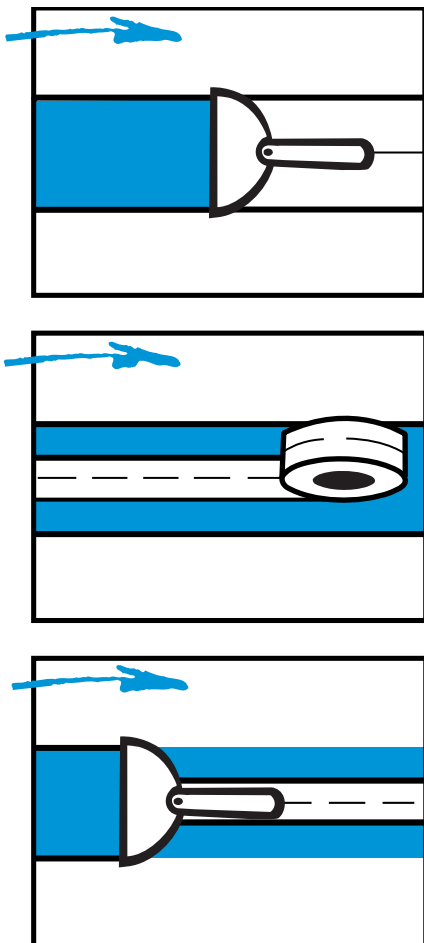

FIGURE 65 Bedding Coat
- > Place paper tape along the joint and bed it into the compound, removing excess compound and any air bubbles from behind the paper tape [Refer to Figure 65]